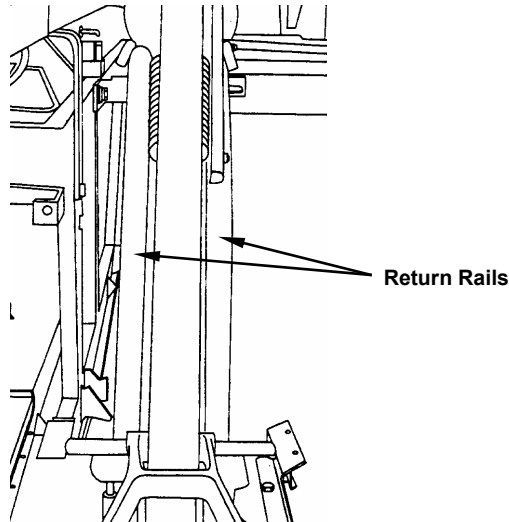

Figure 2-9
1. The Positive Ball lift assembly must be centered between the return rails (see Figure 2-9). To adjust, loosen the nuts on the four clamp studs in the upper and lower mounting brackets, adjust the lift from side to side as needed, and retighten the nuts.